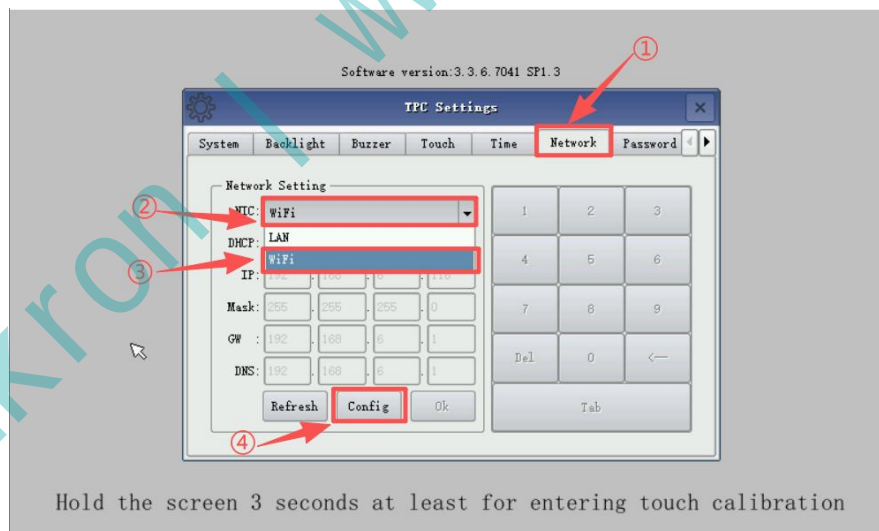

Figure 7.27: WiFi Configuration Interface 1
- 4) Click the "Network" option in the title bar of the "TPC System Settings" interface to display the Network Settings screen. On this screen, click the drop-down menu next to "Network Adapter," and then select "WiFi" from the options that appear. If the selection field updates to display "WiFi," the selection was successful; then, click the "Configure" button located below (as shown in Figure 7.27).